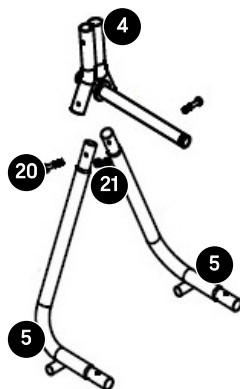

Fig. 1
1. Connect the leg frames (#5) to the tubular frame (#4) and secure using 2 M6x40 bolts (#20) and 2 M6 lock nuts (#21). Refer to Fig. 1.